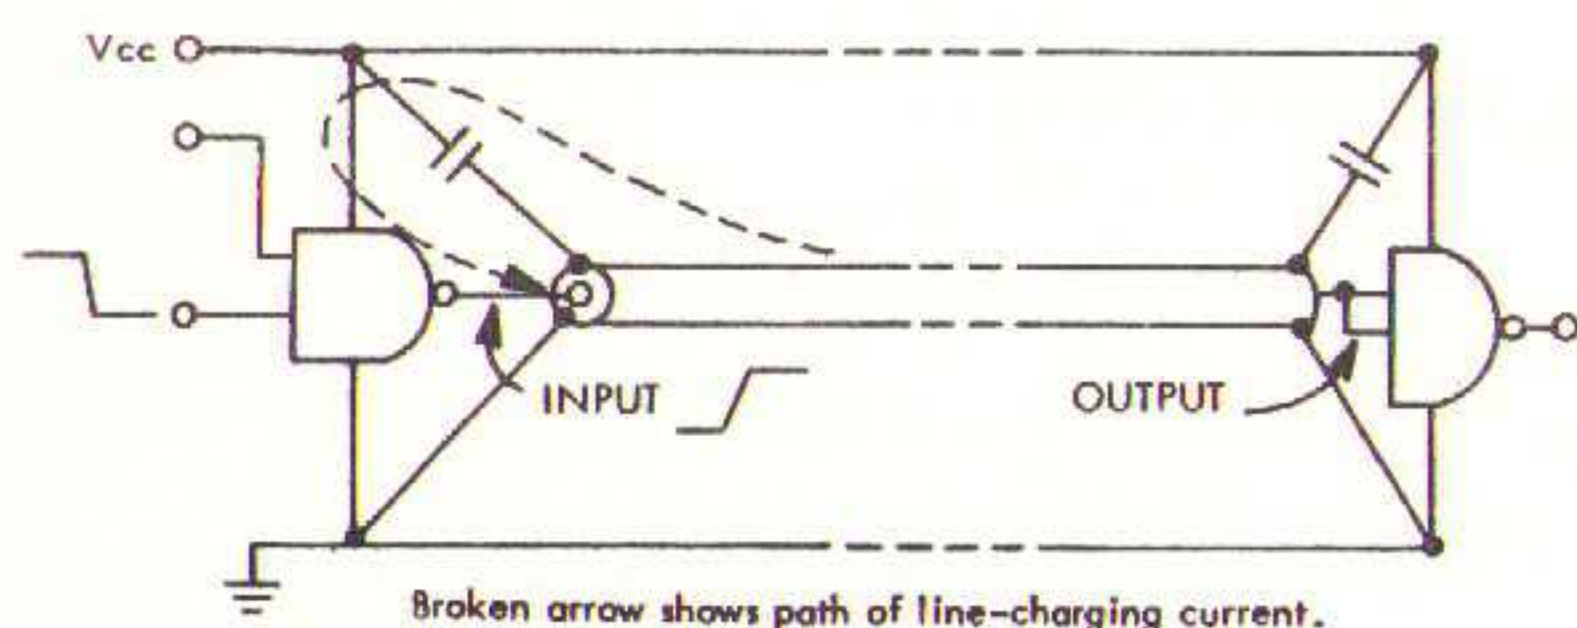

FIGURE 5. Ideal Transmission Line Current-Handling
2. Decouple V_{cc} of line driving and receiving gates close to the device with a .1- μ F disc ceramic capacitor (see Figure 5).